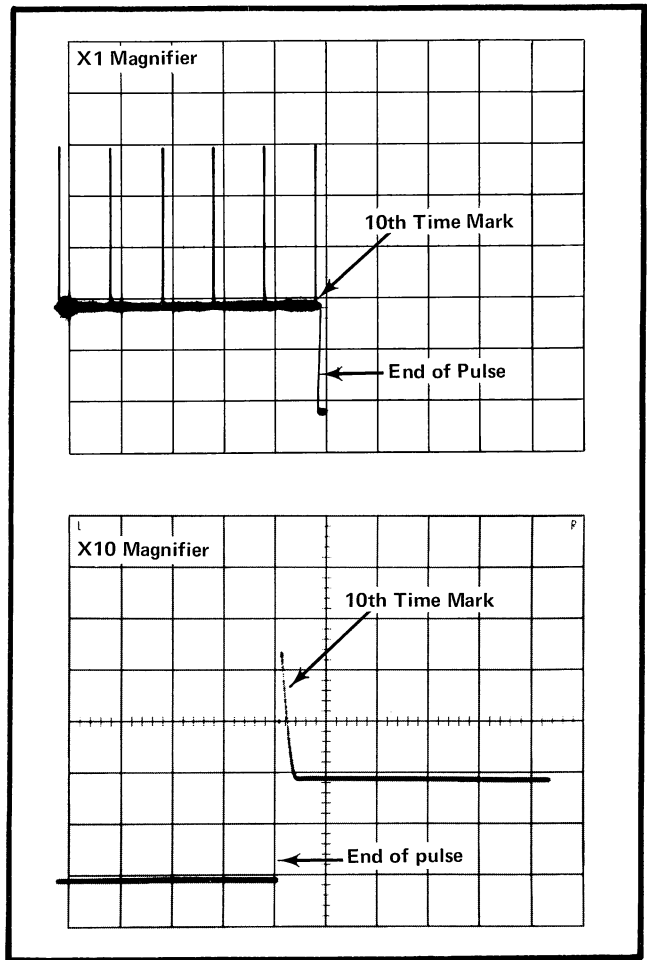

Fig. 5-1. Typical display of Output Pulse and Time Marks for checking Pulse Duration Accuracy.
- d. Display Output Pulse and Time Marks as shown in Fig. 5-1.